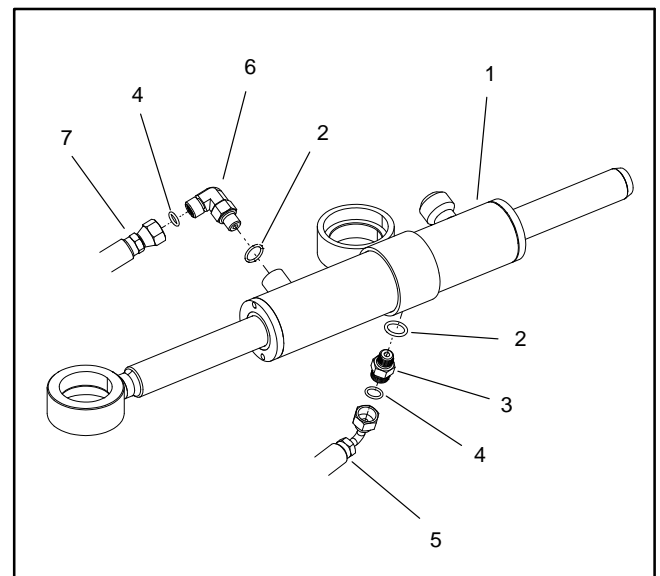

Figure 44
5. If hydraulic fittings are to be removed from steering cylinder, mark fitting orientation to allow correct assembly. Remove fittings from cylinder and discard O-rings (Fig. 44).